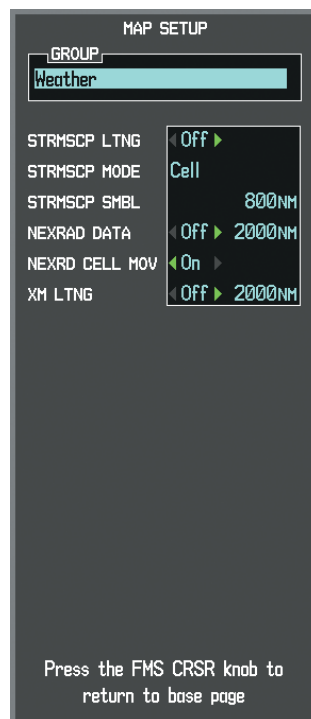

Figure 6-47 Map Setup Menu
- 7) Press the **FMS** Knob to return to the Navigation Map Page (Figure 6-47).
The following options are available (Figure 6-47):